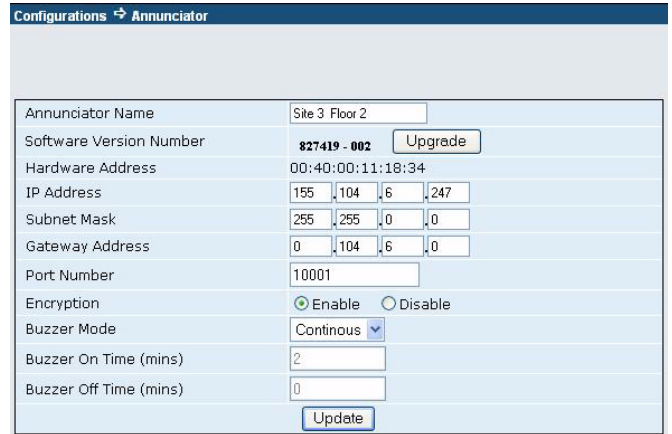

Figure 6: Configurations > Annunciator
6. The Configurations > Annunciator screen appears. See Figure 6. The configurations features are: